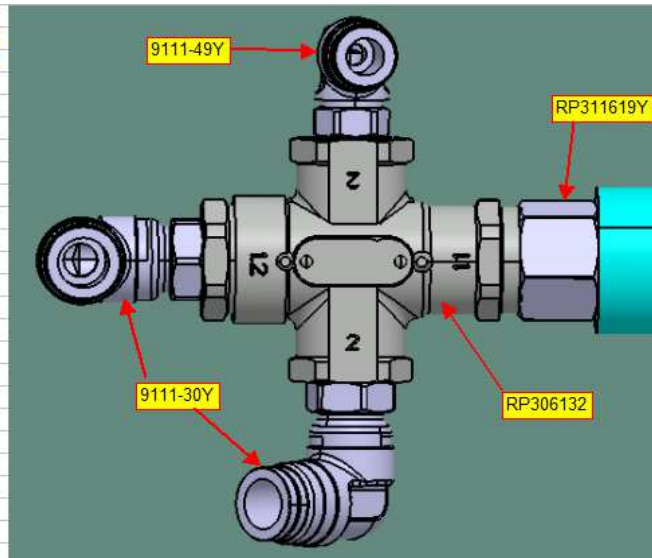

Figure-9
*Install necessary fittings on new double check valve. Part numbers and port locations are shown in Figure-9